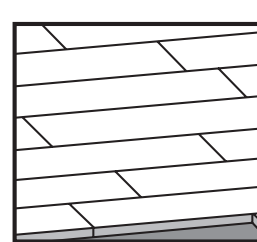

FIGURE 1.1 (CORRECT)
**STEP 9:** Avoid what our industry calls "clusters" by staggering the end joints by at least twice the plank's width. Example: using a 5 1/8" wide plank would put the next row's end joint no closer than 10 1/4". It will be impossible with some width do that. In this case, match the overall look. If available, the use of a Brad nailer is ideal to speed up the above face and blind nailing procedure. Ensure that there is a nail approximately 1-2" away from both ends of the board. Refer to figure 1.1 and 1.2